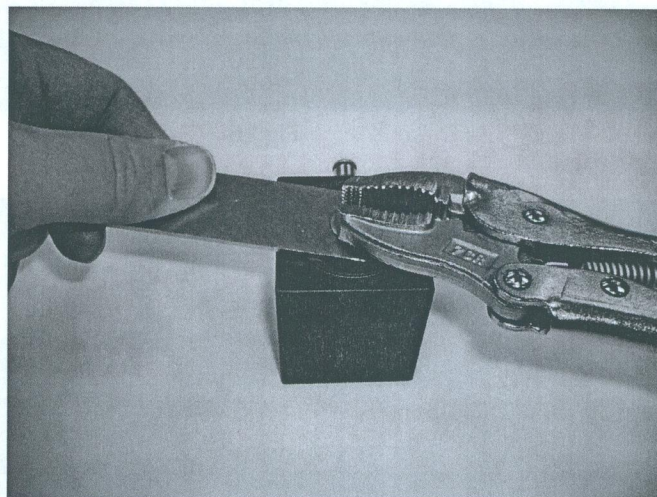

Fig 15
- Use the valve stem wrench to hold the valve shaft and using the 3/32" Allen wrench, loosen the retaining screw in the center of the valve seal. If the screw does not easily release, do not attempted to remove with the wrench. Grip the edges of the screw with a vice grips pliers and unscrew. Once released use the 3/32" Allen wrench to remove the screw completely. Refer to Fig 15